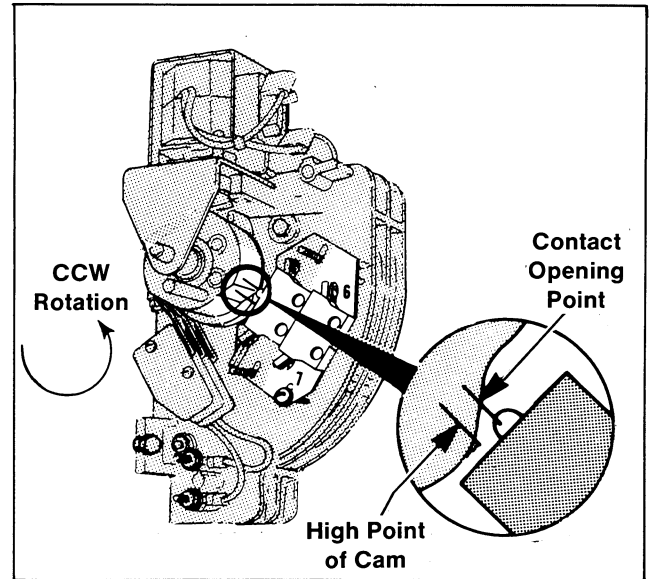

Figure 1-10. Emergency to Normal Cam
e. With manual operator handle, move transfer switch from emergency to normal. Contacts should open at about .125-.187 in. (3.18-4.75 mm) before high point of cam. See Figure 1-10.